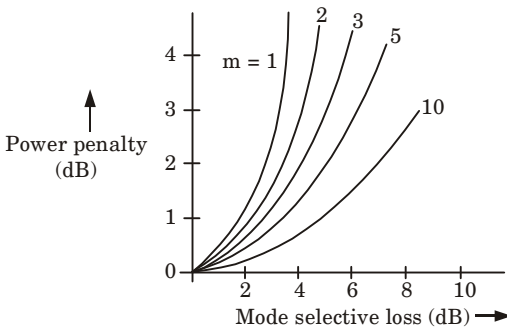

Fig. 5.13.1.
2. Fig. 5.13.1 shows power penalty at